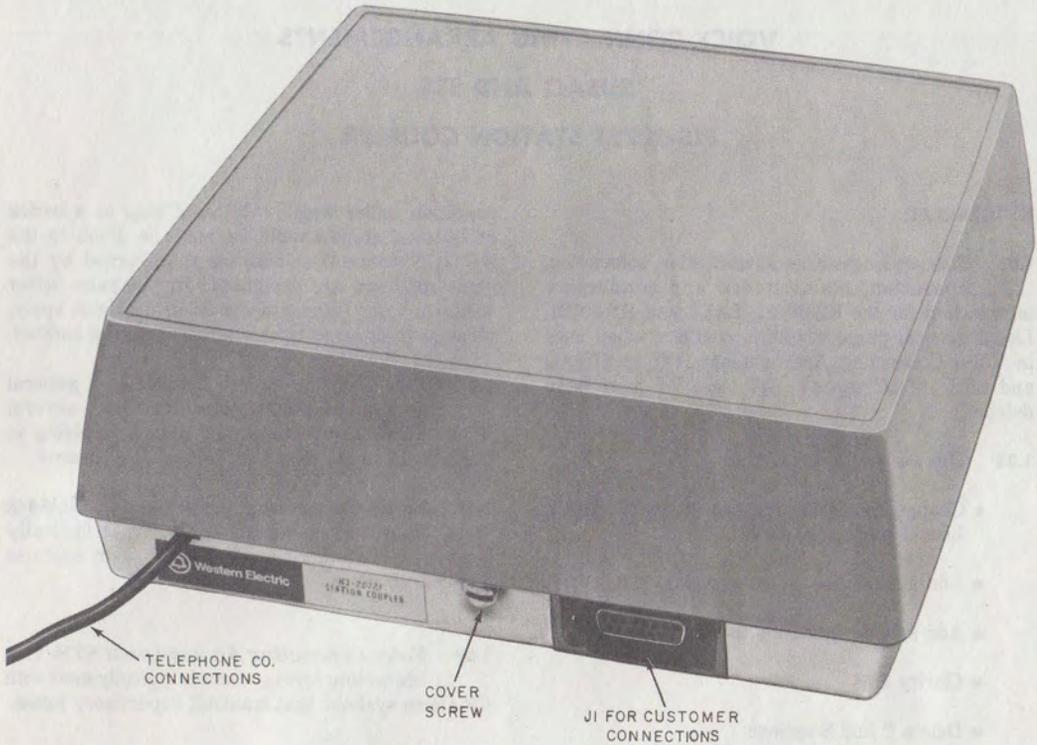

Fig. 1—KS-20721, List 1 or List 3 Station Coupler
**1.03** The KS-20721 station coupler (Fig. 1) is used to provide services similar to those provided by the KS-20008 control unit (MD) and the KS-20445, List 1 control unit for alarm systems. However, the plug and wiring connections may be different and substitution should not be made without customer approval.
- Coupler, Station, KS-20721, L1 (Fig. 1 and 2)
- Coupler, Station, KS-20721, L3 (Fig. 1). The L3 consists of the following items which may be ordered separately and assembled in the field (see 2.03).
**3.02** A 15-pin connector (J1, Fig. 1) is located on the base of the unit to connect the transmission path and control leads to the CPE. The mating